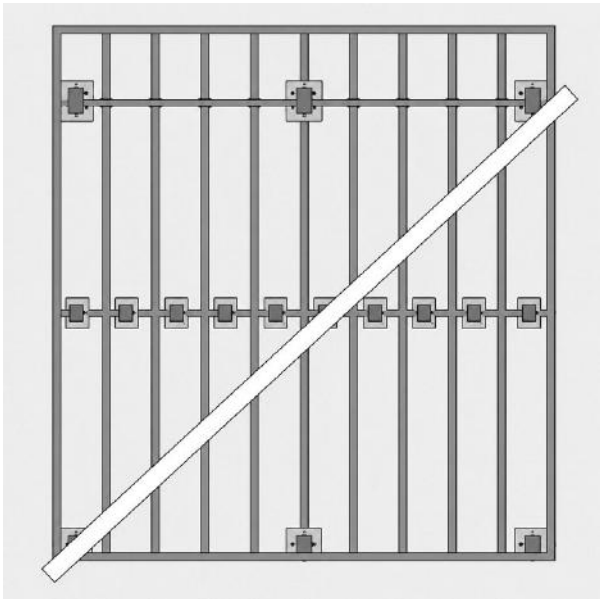

FIG. 11 – CENTRAL BOARD SET OUT AT A 45° ANGLE
- 01 Place the central board first, ensuring the board is at a 45° angle (fig. 11): install 1 hidden clip each time the board crosses a joist; always use hidden fasteners to secure board ends; use 1 clip per board end at butt joints (never share a clip across 2 board ends); use a mitre square to ensure an exact 45° angle.